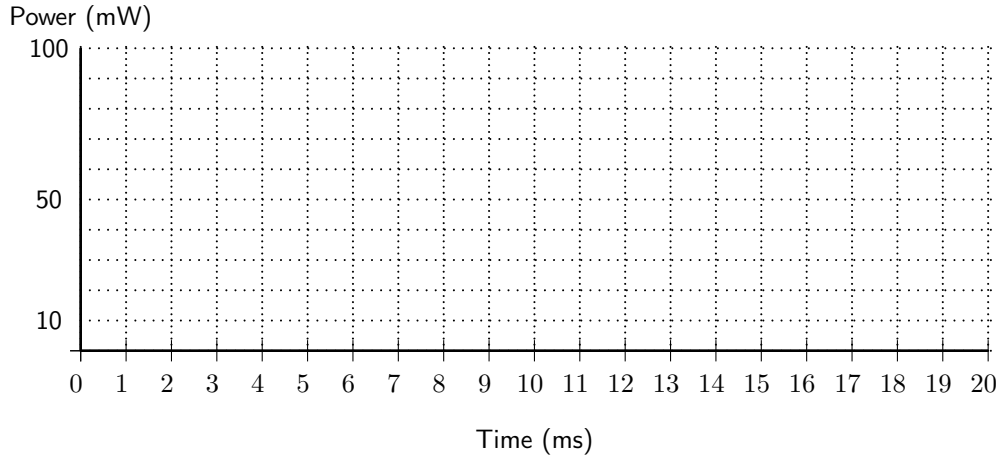

Figure 3: Energy efficient schedule using a workload-conserving scheduler.
- (a) (4 points) Assume zero transition energy (i.e. $E_1 = E_2 = 0$) and instantaneous mode transitions (i.e. $t_1 = t_2 = 0$). Plot in Figure 3 a schedule that includes the power consumption over time, as well as tasks that are executing, using a workload-conserving scheduler that minimizes the average power. A workload-conserving scheduler always executes when a ready task is available.